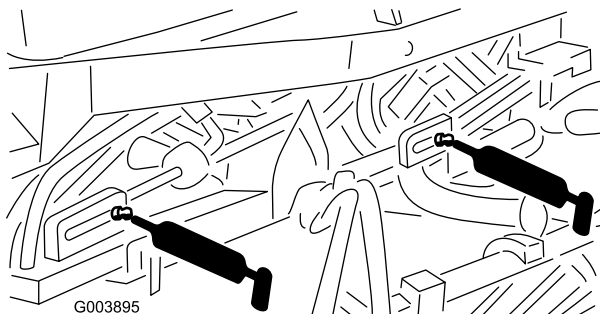

Figure 48
- 5 fittings on the lift cylinders (Figure 48)